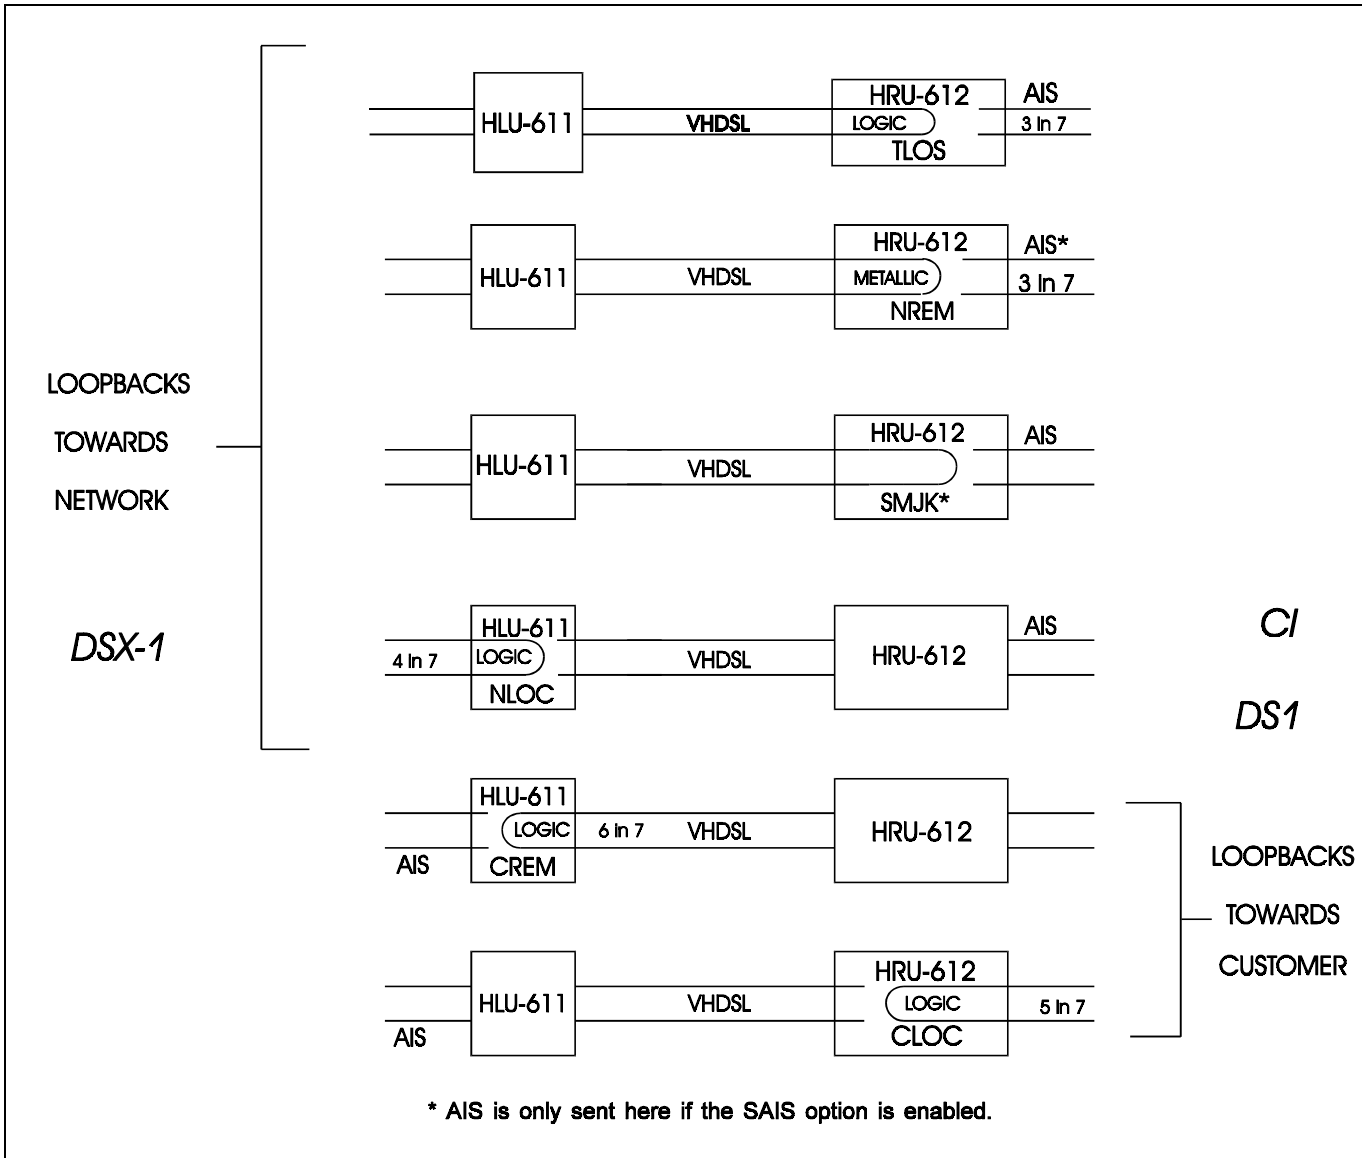

Figure 5. HRU-612 Loopbacks.
*EN*: A loss of the T1 XMT signal from the CPE forces the HRU to enter its logic loopback state (TLOS in Figure 5). While in this loopback state, the HRU transmits the AIS signal towards the CPE and returns the Network signal back to the Network. The HLU displays the message TLOS in its 4 character front panel read-out. This condition remains until a valid T1 signal is received from the CPE or until a loopdown command is issued. Note that once the TLOS initiated loopback has occurred, it can not reoccur until the CPE T1 signal has been reapplied and then removed. This "latching" feature prevents the HRU from oscillating into and out of TLOS loopback when a loopdown command is issued in the absence of a T1 signal from the CPE.
**10.01** Figure 5 shows all 4 HRU loopbacks. Of these, a TLOS and CLOC are logic loopbacks. They occur in the digital multiplexer section of the HRU as shown in Figure 2.
**10.02** Both the SMART-JACK and NREM loopbacks shown in Figure 5 execute the standard NID metallic loopback. The only difference is their initiating sequence. NREM is initiated by the HRV front panel pushbutton, the maintenance terminal, the HLU front panel pushbuttons or the 3 in 7 in band commands. The SMART-JACK loopback is only initiated by the standard 3 in 5 in band loop-up command. It has two modes of operation as determined by the two states (ENA or DIS) of the SAIS user option. The ENA option causes the HRU to transmit the AIS signal towards the NI. The DIS option turns off this AIS/NI signal.
2	Verify that the GREEN HRU front panel loopback LB NET LED turns on, indicating that the HRU is in its digital (NREM) loopback state. Also verify, if possible, that the HLU displays the message "NREM" also indicating that the HRU is in loopback (see Figure 5).